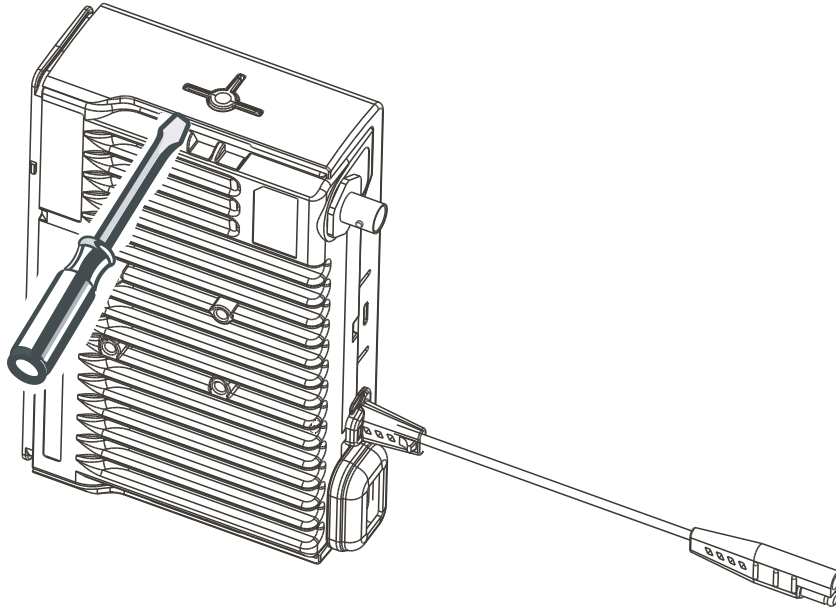

Figure 2-4 Top Cover Removal (Chassis Vertical).
1. Place the radio in a vertical position as shown in Figure 2-4..